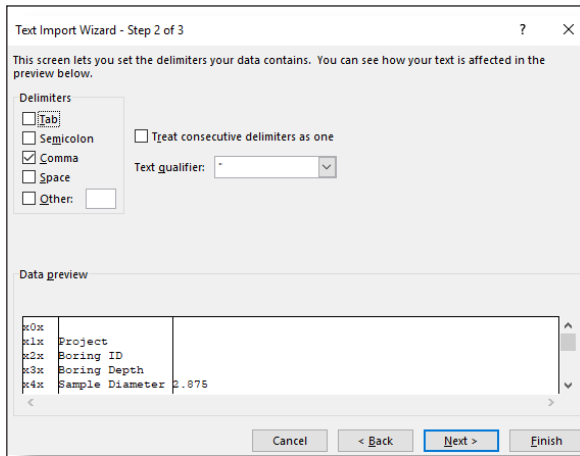

Figure 9: Text Import Wizard Step 2-3
5. Uncheck the box labeled **Tab** (Figure 9) and select the box labeled **Comma**. Select **Next** then **Finish**.